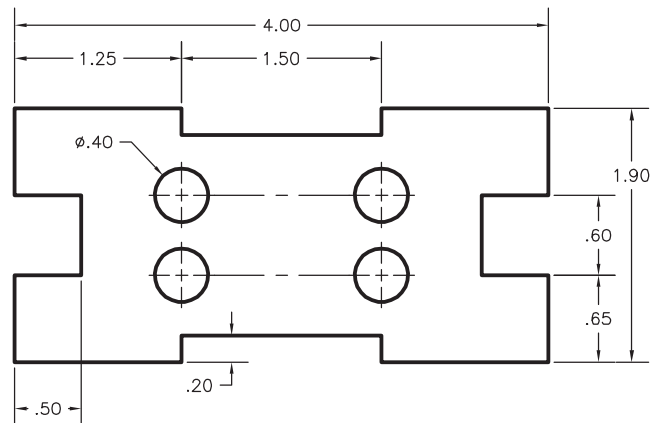

Fig. 29-6
2. Dimension the shim shown in Fig. 29-6. Set the font for **Times New Roman**. Apply **Override** as necessary. Save the drawing as **ch29shim.dwg**.